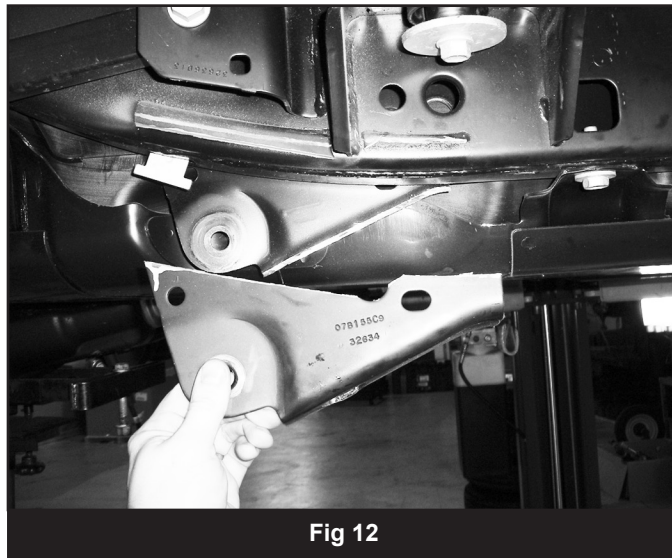

Fig 12
6. After removing the bracket, go back and grind the weld located within the body mount smooth 1" from the end. This will allow the new mounting bracket to lay flush against the frame when installed. (Fig 12)